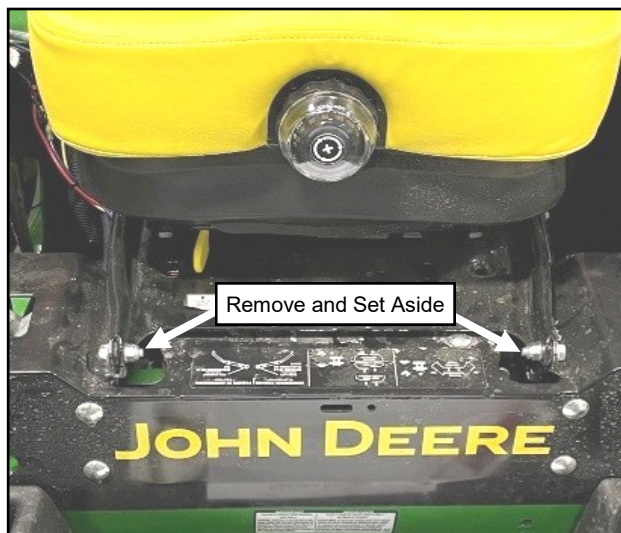

Fig. 1.28 (Remove Front Hinge Bolts)
1.28 Remove and save seat frame hinge bolts and nuts per Fig. 1.28. Remove seat from vehicle.